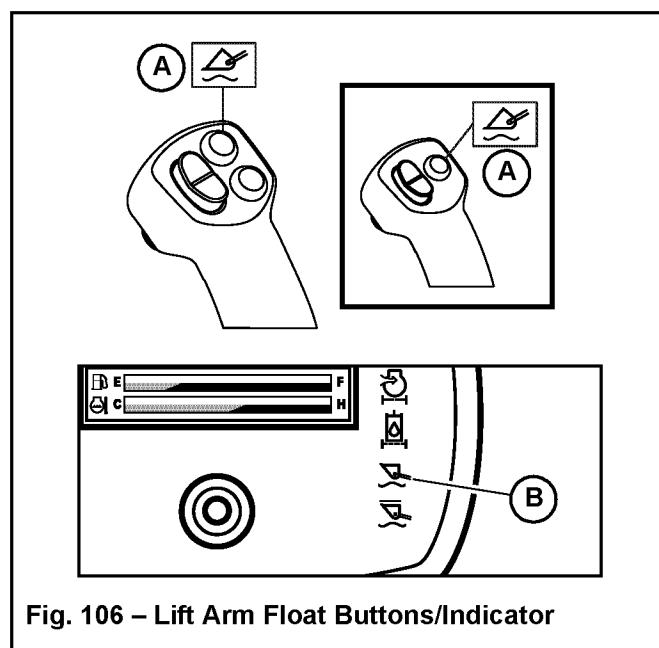

Fig. 106 – Lift Arm Float Buttons/Indicator
2. Press button (A, Fig. 106) on the right control joystick to activate the lift arm float. See “Lift Arm Float” on page 88 for more information about the float feature.
5. When finished, press button (A, Fig. 106) again to deactivate the lift arm float.